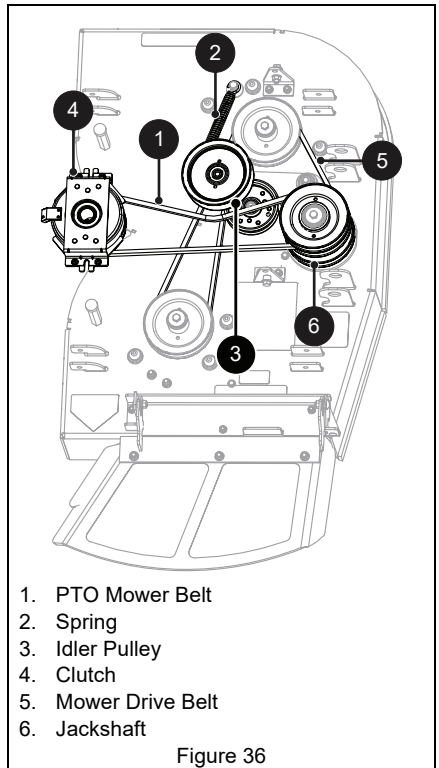

Figure 36
See Figure 36.
1. Install PTO belt on clutch and then on jackshaft. See Figure 36.